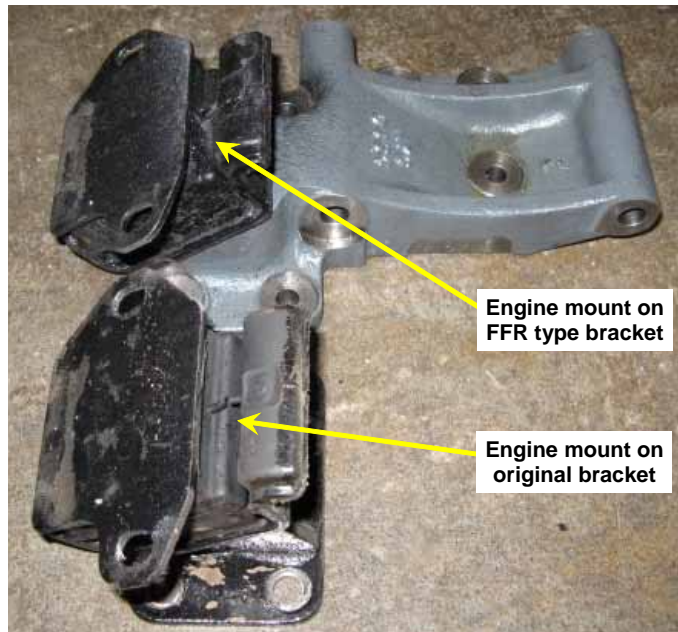

Figure 8 Left-Hand Engine Mount - Old and New
This step is not required if the engine is already fitted with an FFR type engine mount as illustrated in Figure 8.
- (1) Crack loose the two bolts securing the left-hand front engine mount resilient block to the chassis and the four bolts securing the engine mount bracket to the engine block.
- (2) Place a suitable block of wood on a jack, position the jack under the engine oil pan (sump) and then raise the jack so that it just takes the weight of the engine.
- (3) Remove and discard the four M10 x 25 mm bolts (Table 2, Item 26) and lock washers (Table 2, Item 27) securing the engine mount bracket to the engine. Remove and set aside for later reinstallation the earth strap and the two bolts and washers securing the resilient block to the chassis.
- (4) Use the jack to raise the engine just enough to enable the complete resilient block and engine mount bracket assembly to be removed.
- (5) Fit the new resilient block to the new FFR type engine mount bracket (Table 1, Item 23) as shown in Figure 8. Ensure that the locating pin on the resilient block is correctly aligned to the hole in the bracket and then tighten the nut on the back of the bracket.